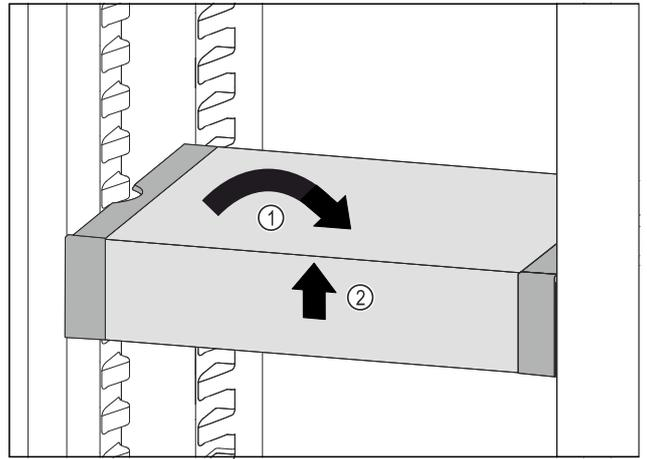

Fig. 123
- ▶ Set VarioSafe straight. *Fig. 123 (1)*
- ▶ Lift VarioSafe at the front. *Fig. 123 (2)*